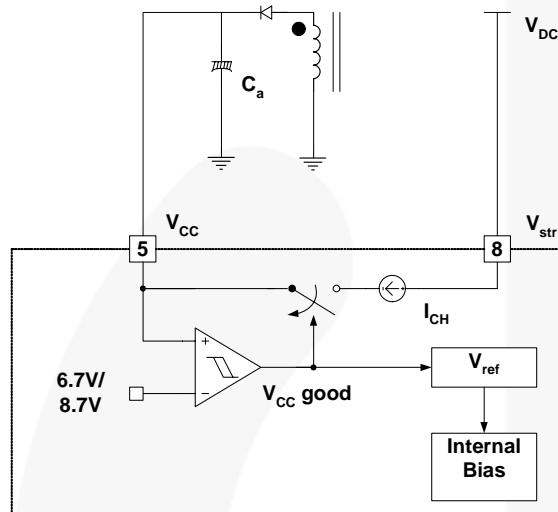

Figure 13. Startup Block
1. Startup: At startup, an internal high-voltage current source supplies the internal bias and charges the external capacitor (C_a) connected to the V_{CC} pin, as illustrated in Figure 13. When V_{CC} reaches 8.7V, the FPS begins switching and the internal high-voltage current source is disabled. The FPS continues normal switching operation and the power is supplied from the auxiliary transformer winding unless V_{CC} goes below the stop voltage of 6.7V.